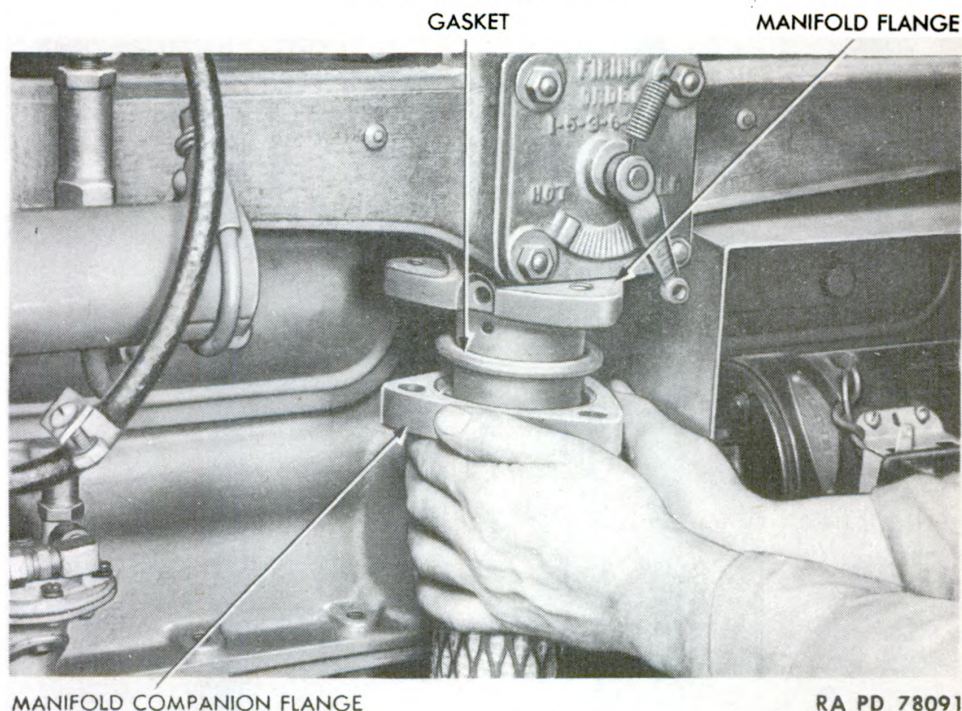

Figure 28 – Manifold Flange Gasket Installation
(1) Bring manifold, with new gaskets affixed, into position against the engine wall with the engine studs in place through the manifold slots. Bring the lower flange or collar of the manifold down over the exhaust pipe. Make sure the pipe reaches up into the top flange. Tighten the bolts that attach the flanges together with the ring gasket (fig. 28) set between. Tighten lock bolt through the upper flange. Place lock washers on the manifold attaching studs and secure manifold in position with 10 hexagonal nuts.
(2) Bring assembly of carburetor and throttle box down in place